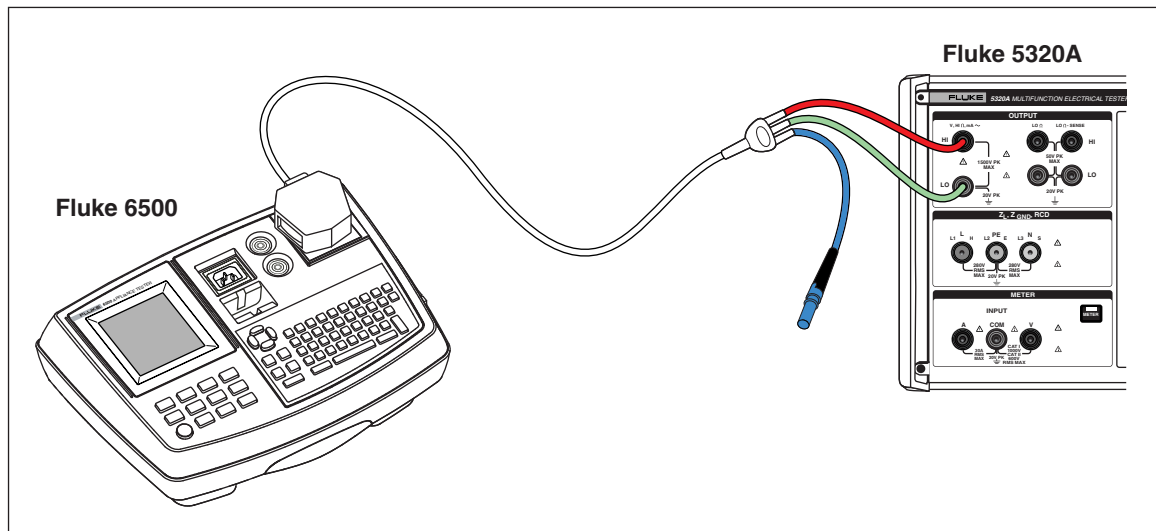

Figure 7-13. Passive Leakage Current Calibration on Fluke 6500
2. Using Figures 7-13, 7-14 or 7-16, connect the UUT to the Calibrator's Output mA~ HI and LO terminals.